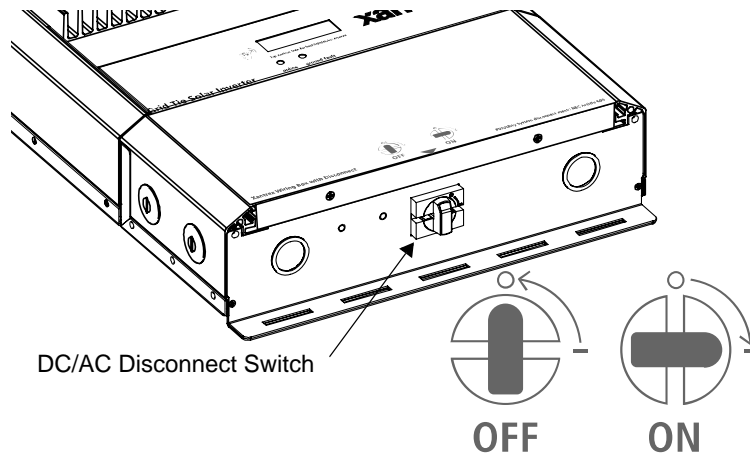

Figure 4-1 DC/AC Disconnect Switch Positions
1. Ensure the DC/AC Disconnect switch is in the OFF position (see Figure 4-1).
1. Switch the DC/AC Disconnect switch to the ON position (see Figure 4-1).